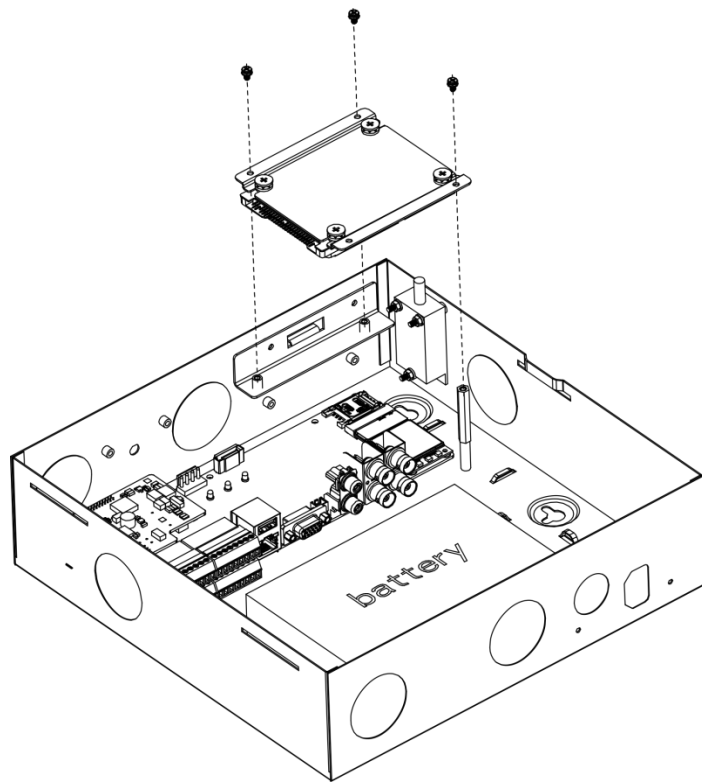

Figure 2-13
Step 3. Fix HDD with well installed bracket into the controller, see Figure 2-13.